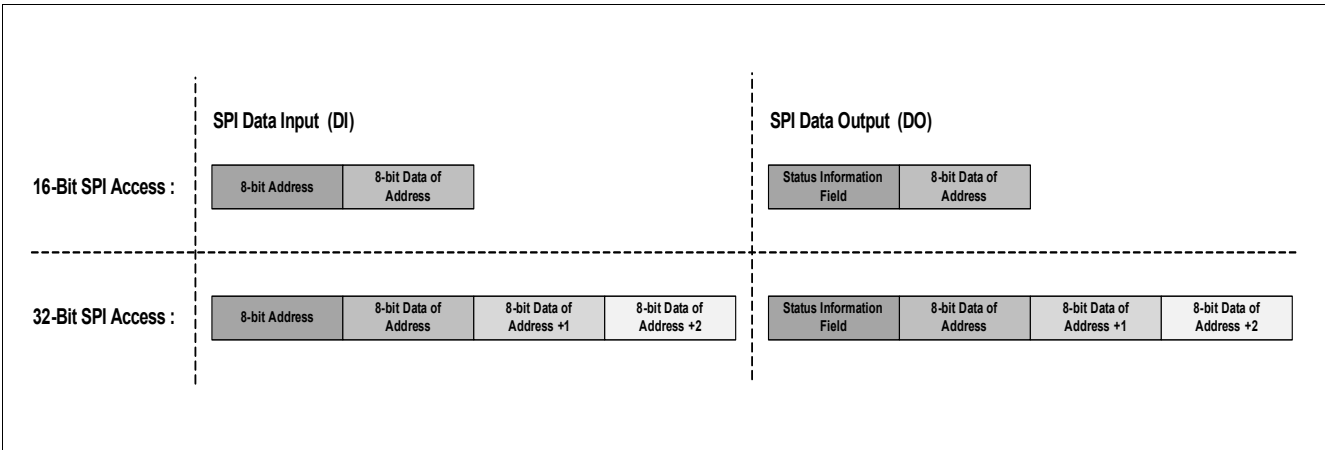

Figure 46 Data access for 16- and 32-bit SPI commands
The TLE9461-3ES V33 is supporting multi-slave operation in full-duplex mode with 16-bit and 32-bit data access (see also Figure 46).
The operation of the 16-bit and 32-bit SPI data access is shown in Figure 46.
- following the data byteThe numbering of following bit definitions refers to the data byte and correspond to the bits D0...D7 and to the SPI bits 8...15. In case of 32-bit SPI commands, the data bytes from the next valid address are accessed (see also Figure 46).